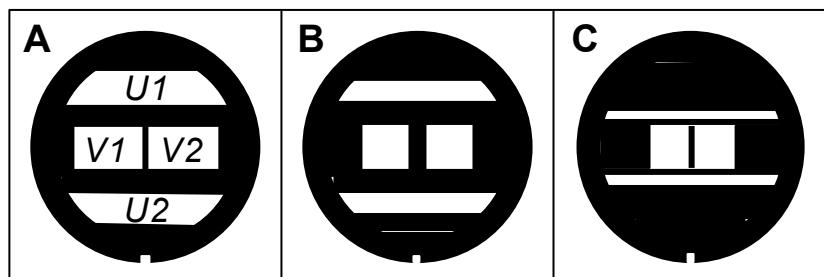
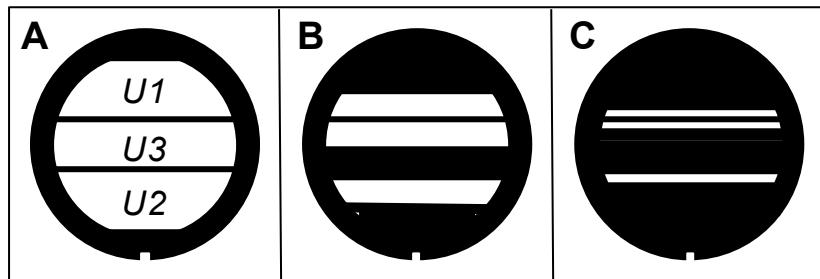

Figure 5-25: Masks for Dual PDA receiving probe
Figure 5-26: Masks for Fiber PDA receiving probe
- Aperture mask: The Aperture mask field is active for FiberPDA and DualPDA only. Select the mask that you have mounted in your receiving probe. A mask (with large apertures) is for small particles, B mask (with medium apertures) is for medium particles and C mask (with small apertures) is for large particles (Figure 5-25 and Figure 5-26)